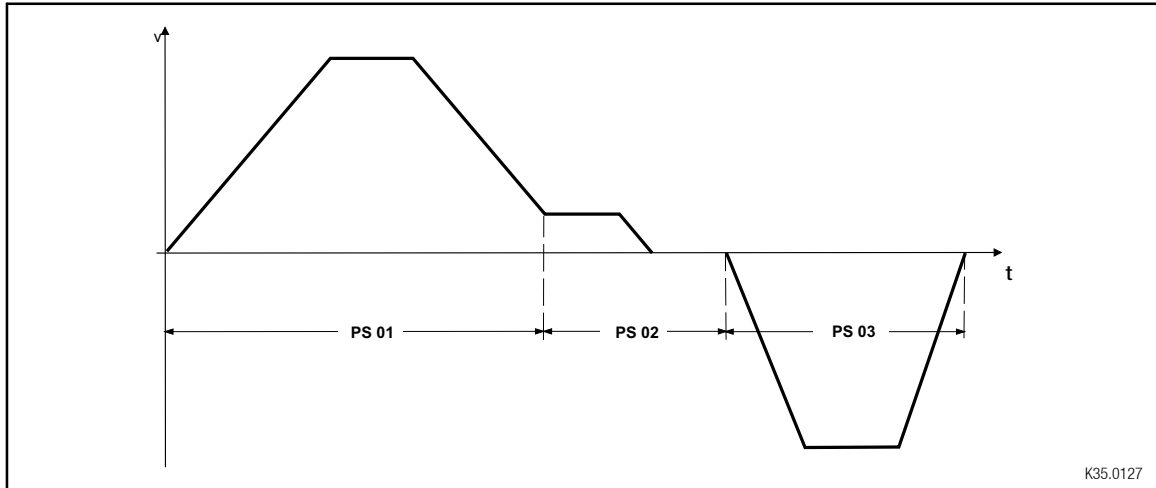

Fig. 5-11 Structure of a positioning profile (example of a point-to-point positioning)
- Make a travel profile of your drive task (e. g. B. Fig. 5-11, Fig. 5-12)